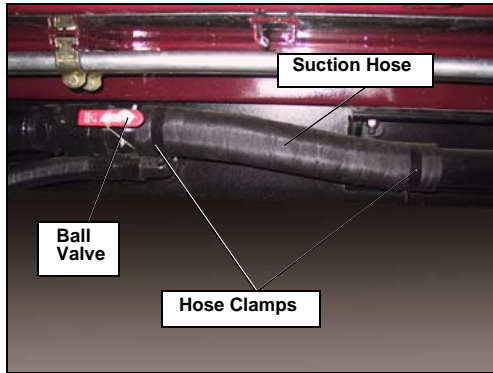

Figure 107. Suction hose
9. Remove both hose clamps from the suction hose (Figure 107. "Suction hose") and slide the hose over the pipe until it clears the ball valve (slide towards the front of the vehicle).